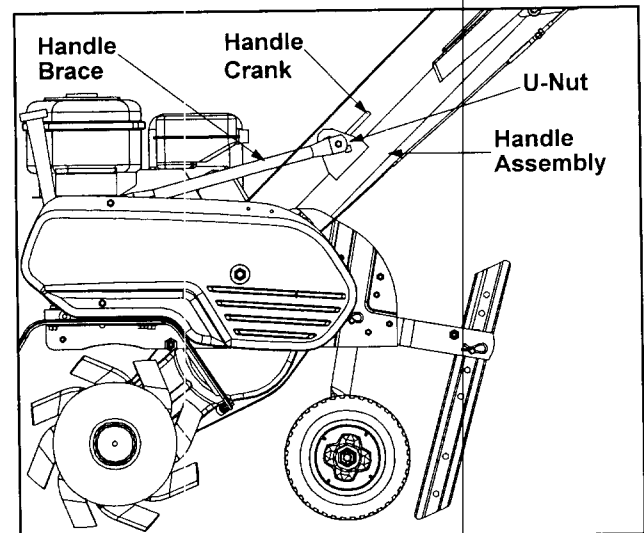

Figure 4
5. Insert the handle crank through the welded bracket on the handle and into the threaded U-nut on the end of the handle brace. See Figure 4.